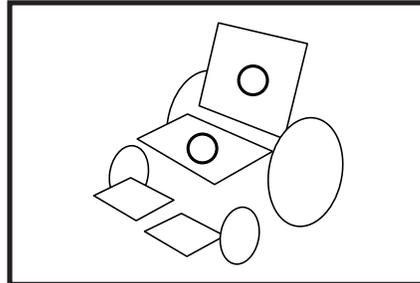

Figure 8. Remote Plus Actuator Indicator
3. Push the joystick to the right to cycle through the available actuators until the seat and seatback lights are illuminated on the actuator indicator. See figure 8.